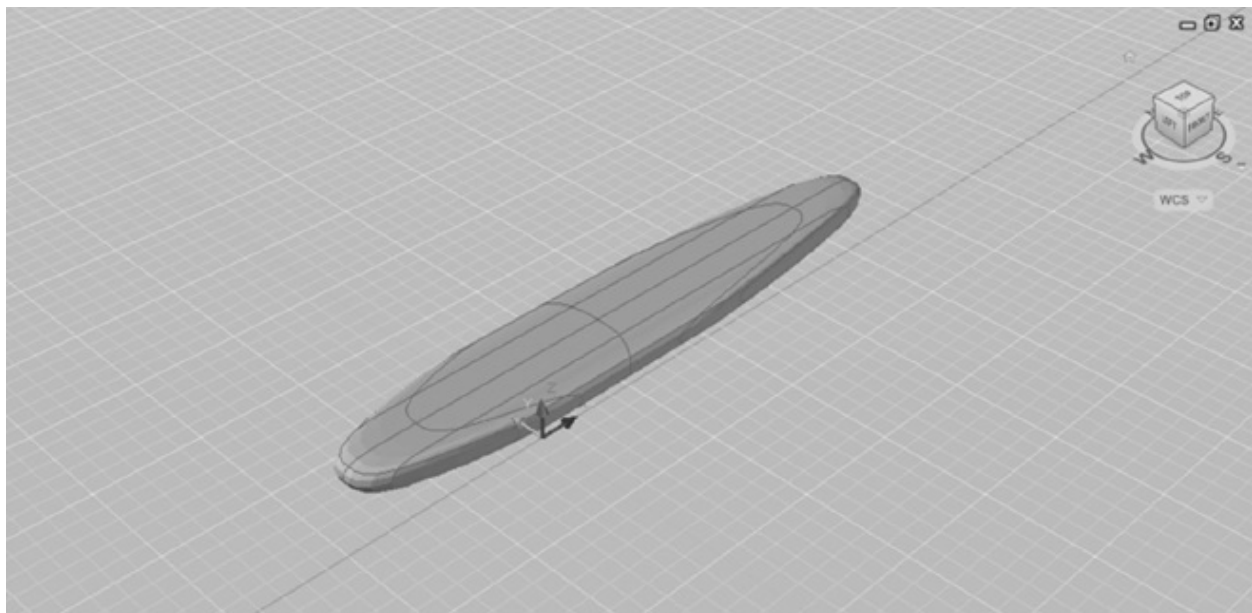

FIGURE 23.13 The mesh so far
7. Click the Home tool on the ViewCube to get a better view of your mesh at this point (see Figure 23.13).